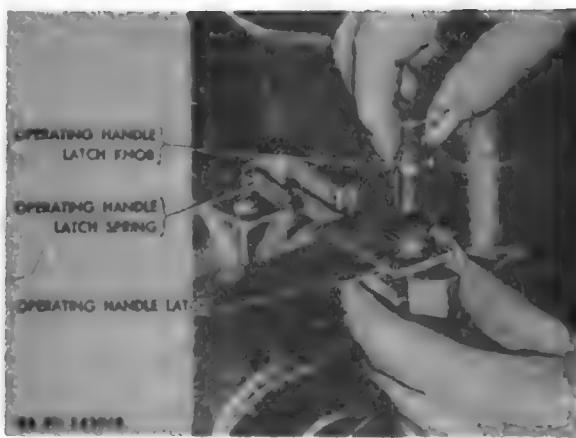

Figure 118. Removing or installing operating handle latch.
h. Disassemble Operating Handle Latch. Unscrew the operating handle latch knob (fig. 118). The operating handle latch will then slide outward to the right under the tension of the operating handle latch spring.
b. Assemble Operating Handle Latch. Place the operating handle latch spring (fig. 118) in position in the breechblock carrier. Slide the operating handle latch into position and push it in against the spring pressure. Install and tighten the operating handle latch knob.